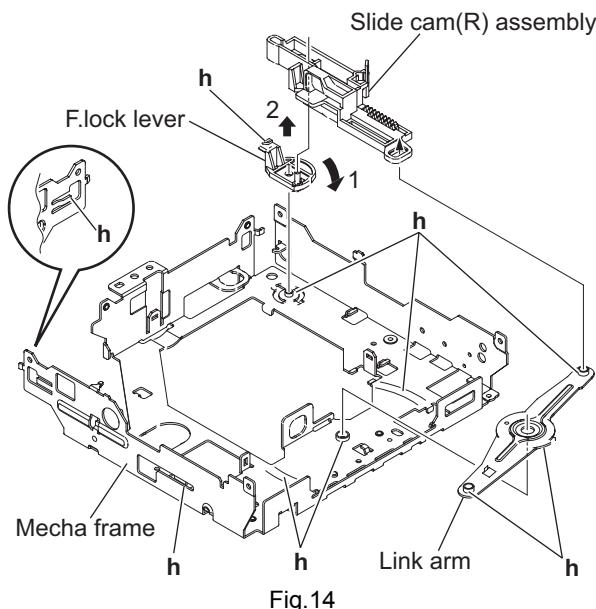

Fig.14
3.2.7 Removing the F.lock lever and slide cam (R) (See Fig.14 and 15)
- (1) From the top side of the mecha frame, take out the slide cam (R) assembly in an upward direction. (See Fig.14.)
- (2) Rotate the F.lock lever in the direction of the arrow 1, and then take out the direction of the arrow 2. (See Fig.14.)
When attaching the slide cam (R) assembly, the f.lock lever and the link arm apply grease to the section **h**. (See Fig.14 and 15.)